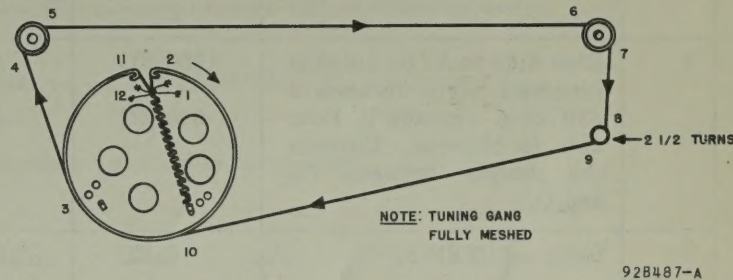

Fig. 7. TUNING Dial Cord Stringing Diagram
2. Tie one end of a 48 inch length of 30 lb. test dial cord to the spring at position 1. See Fig. 7.